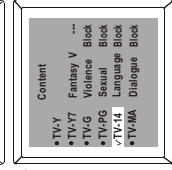

Fig.3
- 3. Press the CHANNEL UP/DOWN button on the set or CH+▲/CH▼ on the remote control to select a rating category, e.g. TV-14 as Fig.3.